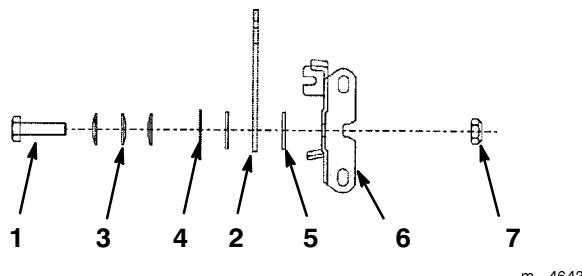

Figure 46
3. Tighten nut and bolt. Test lever and adjust tension to your desire (Fig. 46).